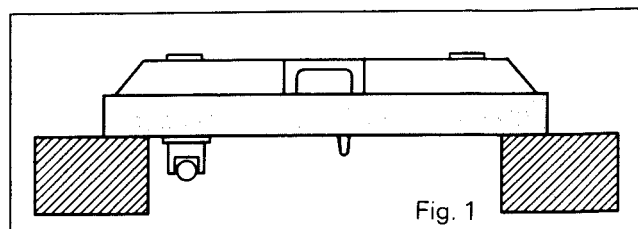

Fig. 1
- (1) Remove the dust cover.
- (2) Remove the turntable and prepare the unit to be moved by locking the motor and mechanism in place with the four red screws.
- (3) Fix the tone arm in place with the lock lever of the arm rest.
- (4) Place the set on a suitable bench with the bottom base upward. (Fig. 1)